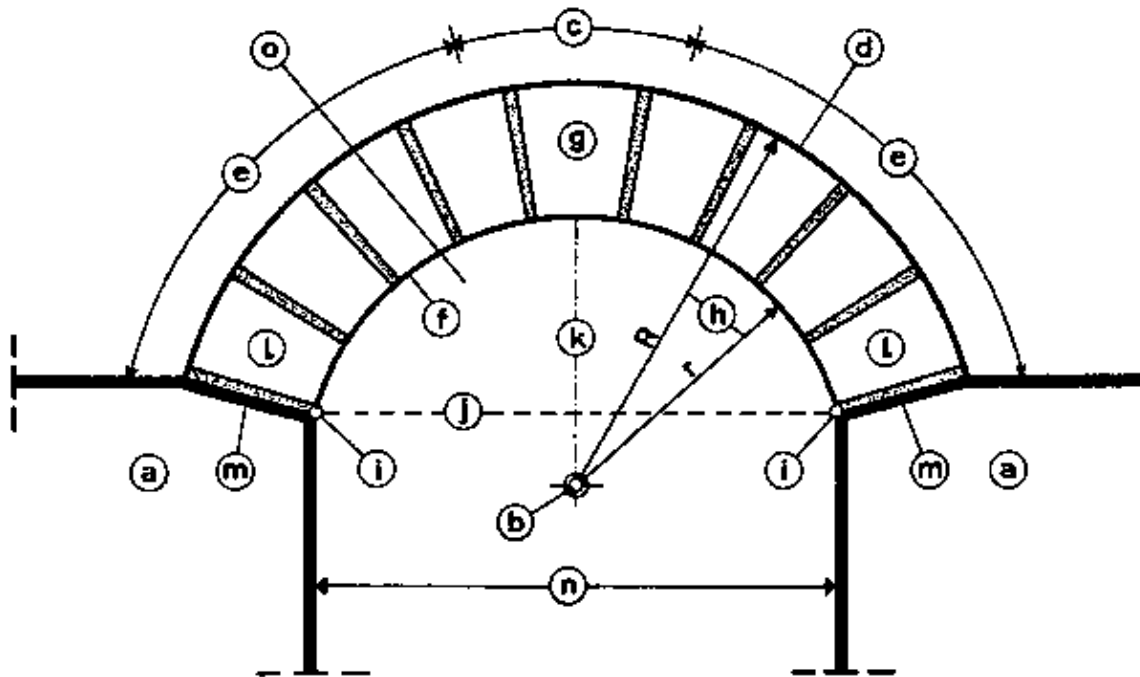

Fig. 1
Before we continue with this chapter, it is essential to understand the technical terms that are used in connection with arches. The terms below are indicated in Fig. 1.
- **ABUTMENT:** The word “abut” means to meet at one end or to border on something. An abutment (Fig. 1, a) is that portion of solid masonry that carries the weight of the structure of an arch. In Rural Building, the minimum width of an abutment at the end of a wall should be $\frac{3}{4}$ of the span of the arch. This means that the distance from the arch to the end of the wall should be at least $\frac{3}{4}$ of the span of the arch.